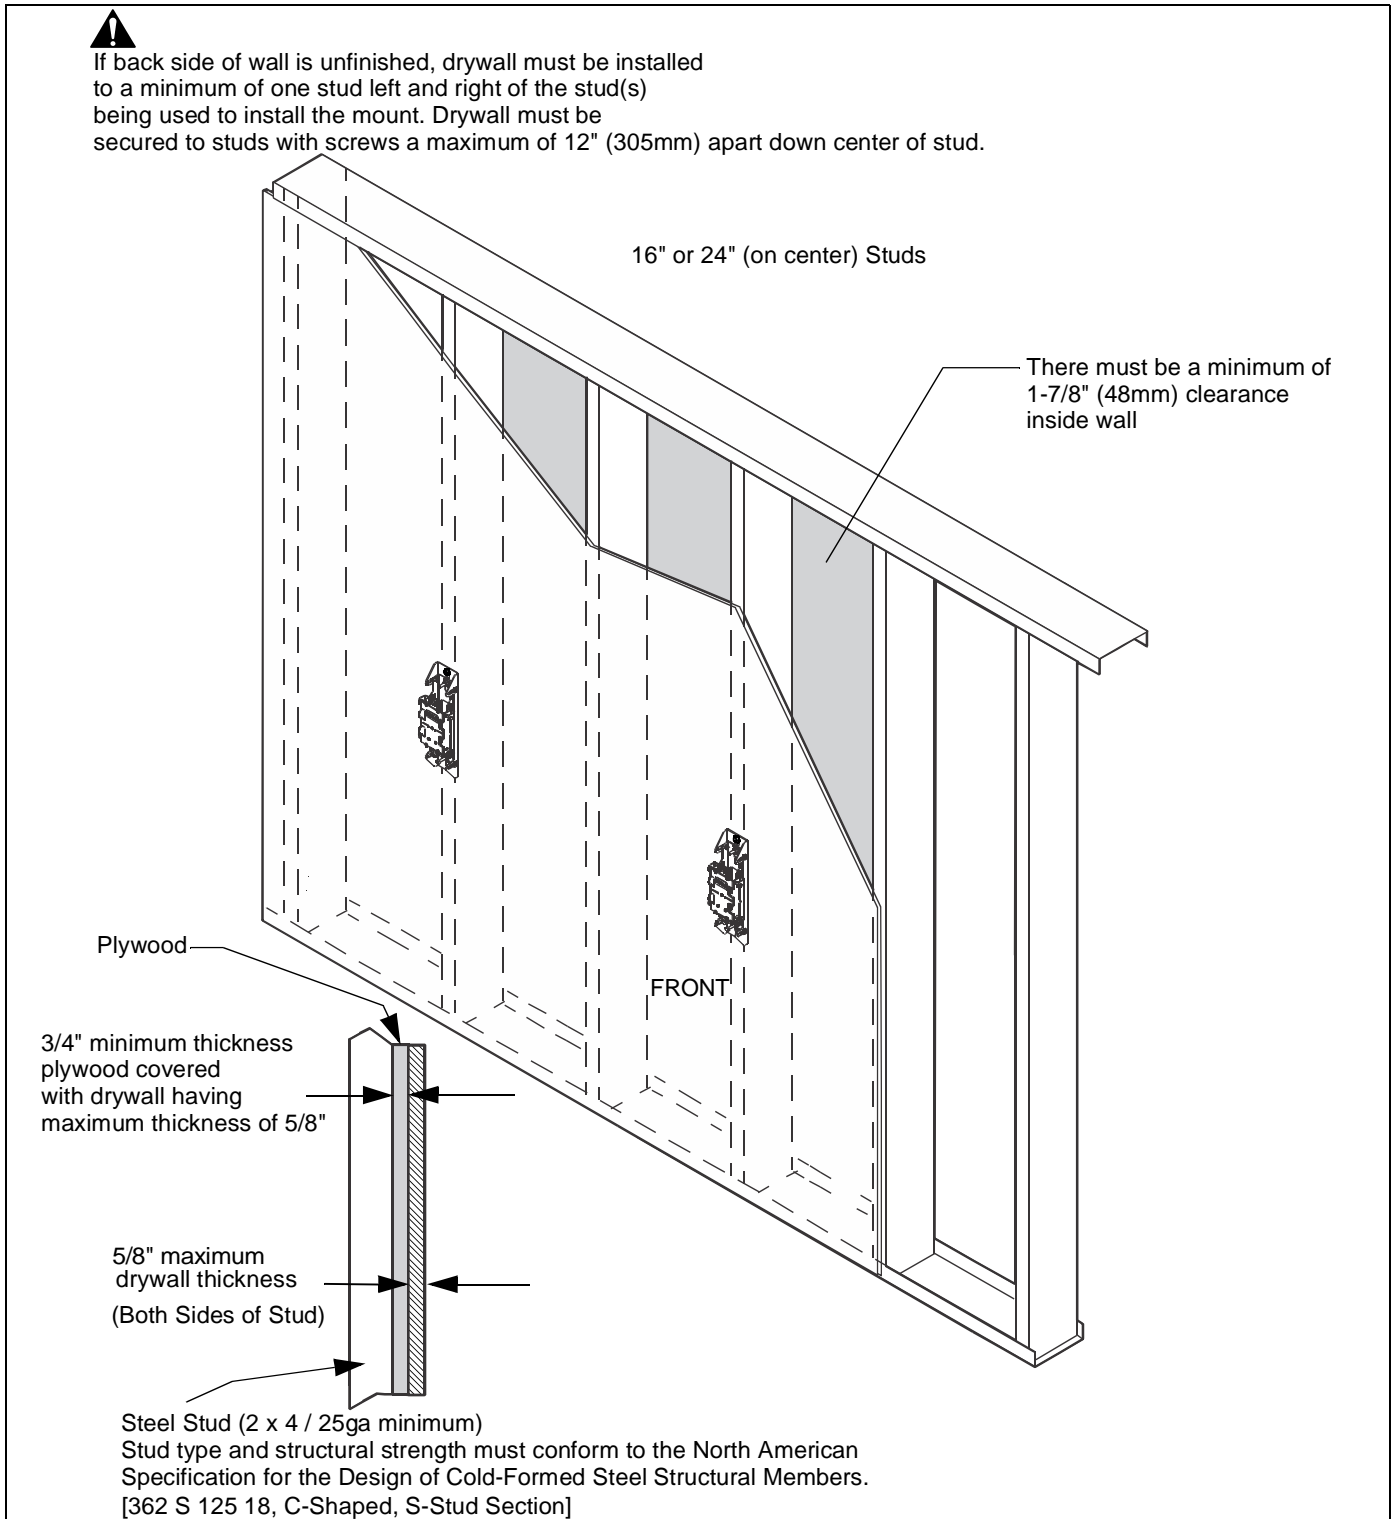

Figure 9
1. **Installing into plywood (covered in 1/2" or 5/8" drywall) ONLY:** Use two 1/4-20 BB Snaptoggle anchors **OR** 5/16-18 BE Snaptoggle anchors with two minimum 2" long, minimum Grade 5 screws through wall upright into plywood. (Hardware not included.) (See Figure 9)
2. **Installing in plywood (covered in 1/2" or 5/8" drywall) AND steel stud:** Use two 1/4-20 BB Snaptoggle anchors with two minimum 2" long, minimum Grade 5 screws through wall upright and into plywood and steel stud. (Hardware not included.) (See Figure 9)